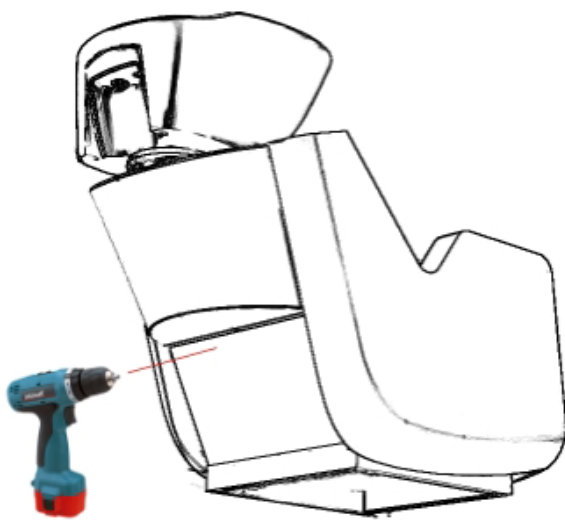

Fig.1
- 3) Once the sink is positioned properly , remove the aluminium front cover, placed underneath the seat, by unscrewing the fixing bolts, extract the feeding cable out of the leg-raise control box and connect to the provided electric socket flush to the floor (fig.1 -2)